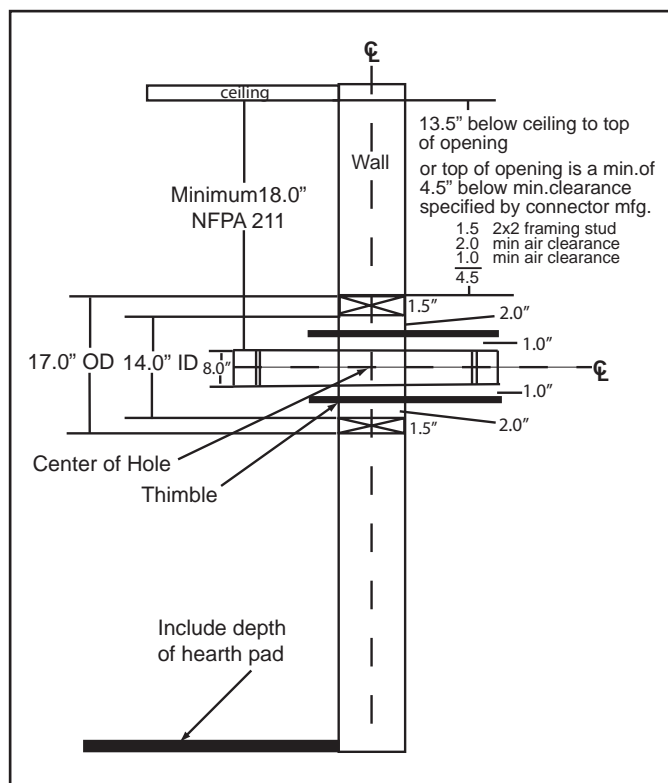

Figure 18.1
- Top of wall opening is a minimum of 13-1/2 inches (343mm) from ceiling or 4-1/2 inches (114mm) below minimum clearance specified by chimney connector manufacturer. NFPA 211 minimum vertical clearance of 18 inches (457mm) from chimney connector and ceiling or minimum recommended by chimney connector manufacturer. **Figure 18.1.**
1. Open inside wall at proper height for the chimney connector to entry the masonry chimney. **Figure 18.1**
3. Construct a 17 inch x 17 inch (432mm x 432mm) outside dimension frame from 2 x 2 framing lumber to fit into wall opening. Inside opening of frame should be no less than 14 inch x 14 inch (356mm x 356mm). **Figure 18.1.**